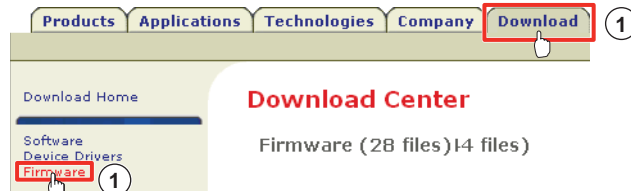

Figure 17. Location of Firmware Upgrade Files
1. Visit the Extron website, www.extron.com, click the **Download** tab, and then click the **Firmware** link on the left sidebar menu (see figure 17).